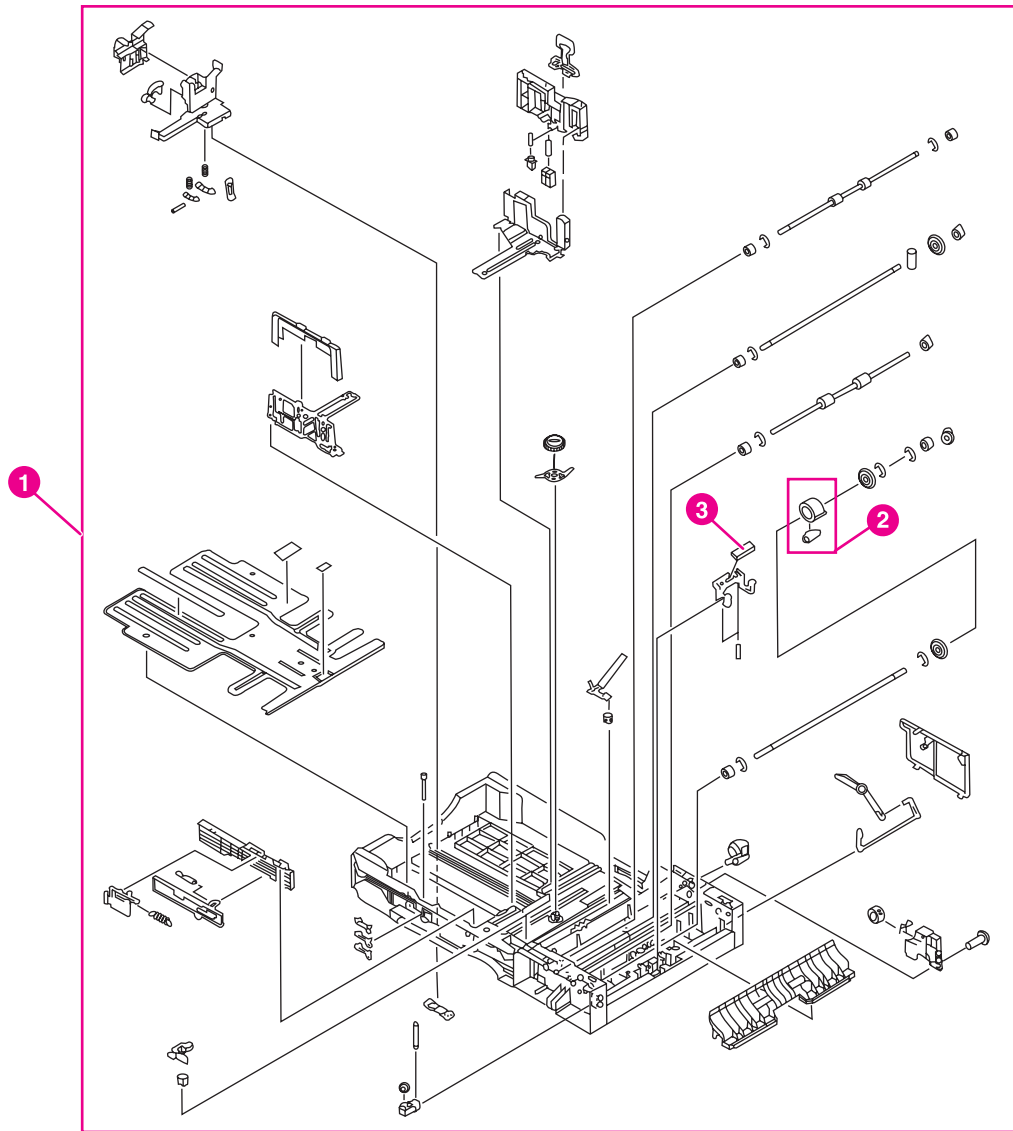
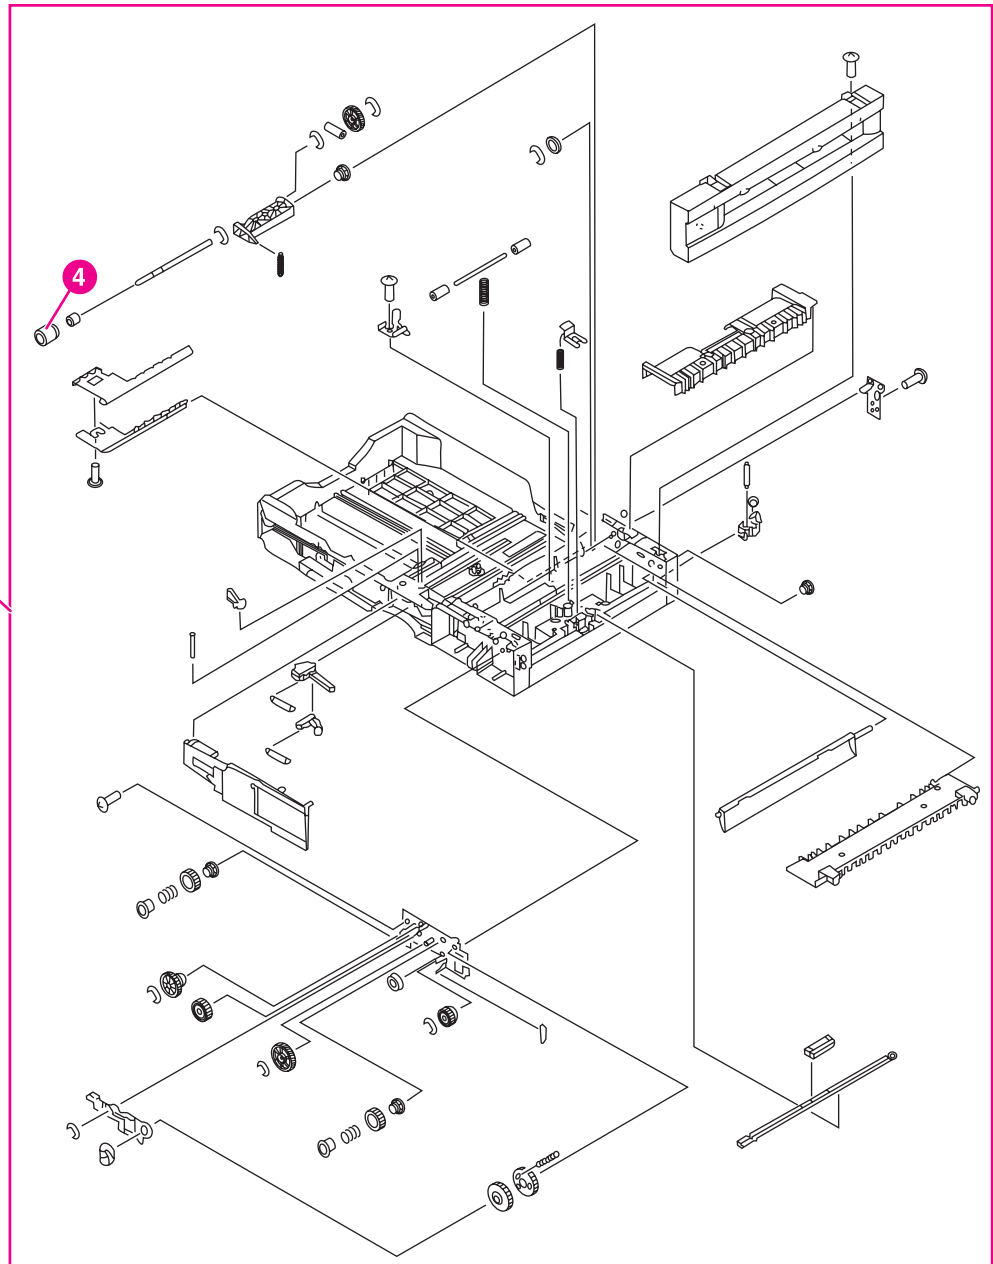

Figure 8-18. **Cassette (1 of 2)**
Figure 8-19. Cassette (2 of 2)
Table 8-19. Cassette lists parts shown in Figure 8-18. Cassette \(1 of 2\) and Figure 8-19. Cassette \(2 of 2\). If you order a replacement cassette (item 1), you will receive all parts shown in both figures.